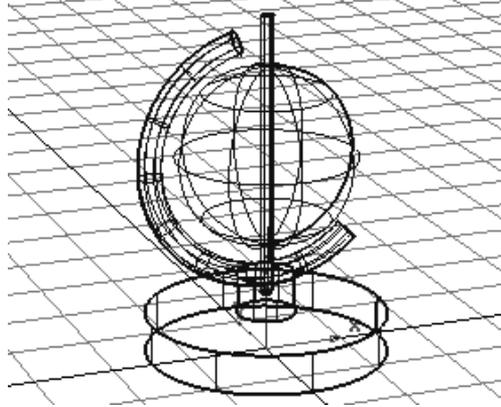

Figure 2-107 Model after scaling the axial rod
2. Enter **15, 15, 350** in the promptline and press ENTER; the axial rod is scaled, as shown in Figure 2-107.